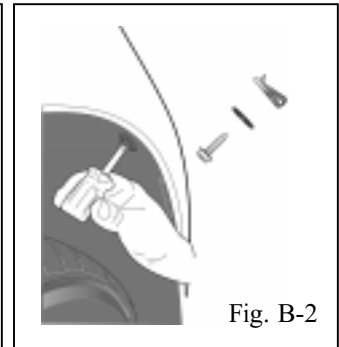

Fig. B-2
- ➡ 4. Install the snap/screw, and washer into the spring clip. (Fig. B-2.)